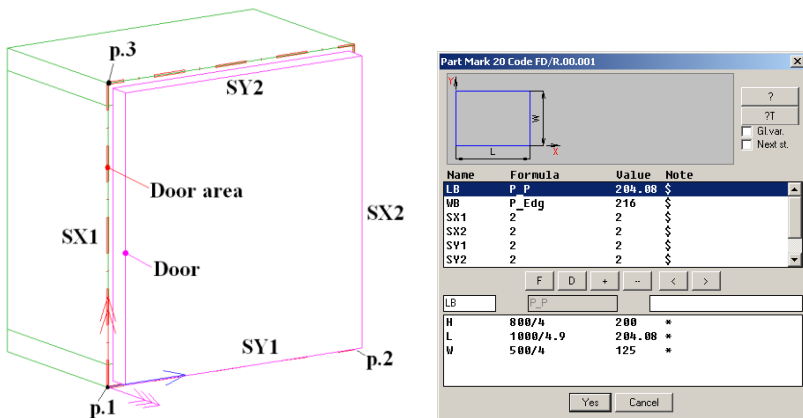
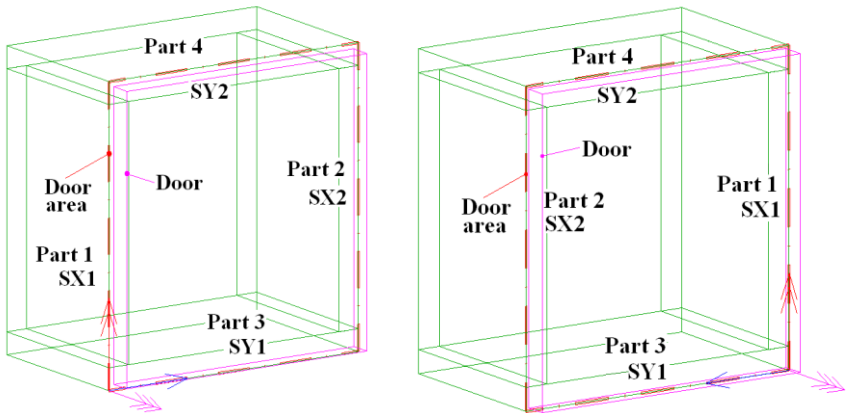

Fig. 3.63 Door and its variable dialog window
Fig. 3.64 The Parts order specifying and result of the Door insertion
ODO (box) + / Base point: Specify a base Door point, see fig. 3.63, point “p.1”. Note, the base point determine bottom gap and side gap see fig. 3.61, page 104
*ODO (box) + / *change point #N / Point of axis X:* Specify the second point, see fig. 3.63, point “p.2”.
*ODO (box) + / *change point #N / Point of axis Y:* Specify the third point, see fig. 3.63, point “p.3”. Note, the third point determines top gap, see fig. 3.61, page 104
Note. Base point determines the Door origin. The gaps “SX1” and “SY1” are determined by object origin, see fig. 3.63.
Base vertical part: Specify a base Part. Note, the base Part determines the Door coordinate system (hereinafter CS), see fig. 3.63 and fig. 3.64. The Door CS origin is determined by specifying the Part 1. The Door Y-axis is parallel to the edge specified on the Part 1.